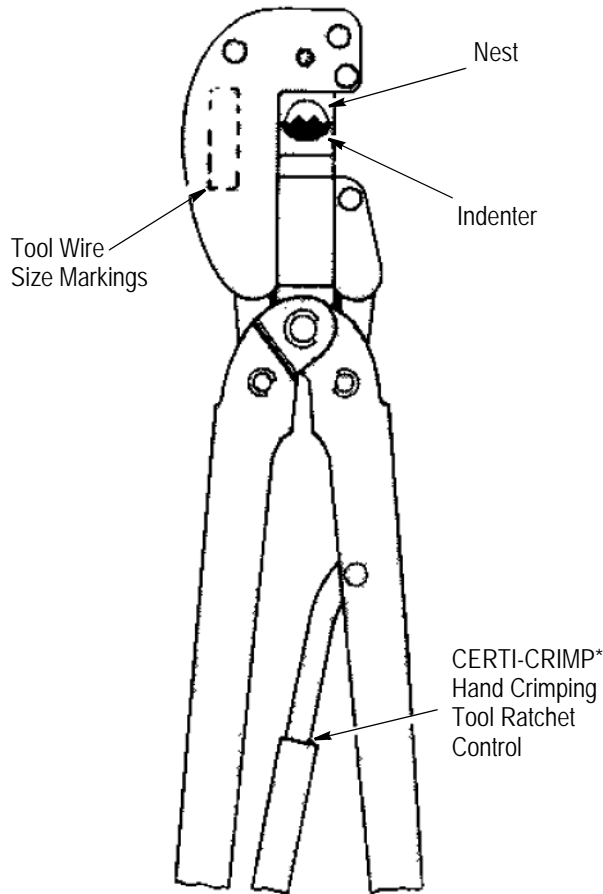

Figure 1
2. Open crimping dies by closing handles until CERTI-CRIMP hand crimping tool ratchet control releases. See Figure 1. Note that once the ratchet is engaged, handles cannot be opened again until they are fully closed.